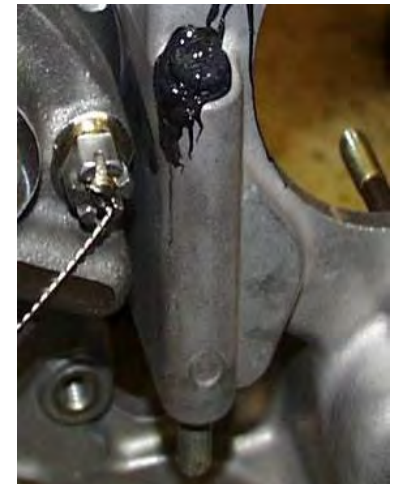

Figure 6
Remove the fuel pump plunger from the accessory housing (Figure 6).
- B. Install the fuel pump plunger in the accessory housing as shown in Figure 6.